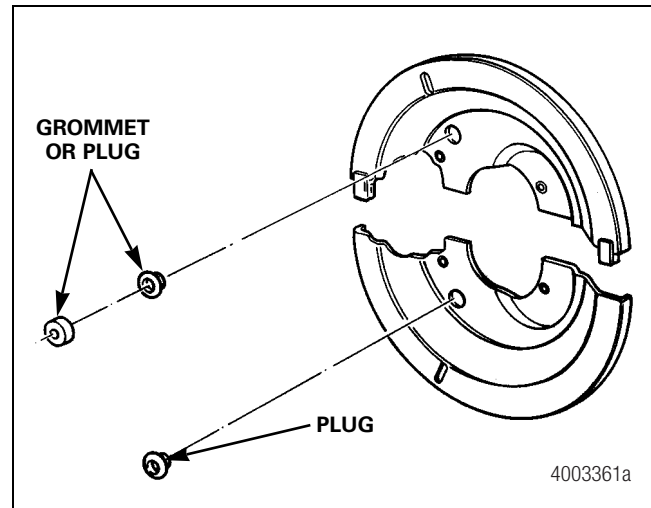

Figure 13.16
- On axles not equipped with ABS, insert plugs into both holes. Figure 13.16.